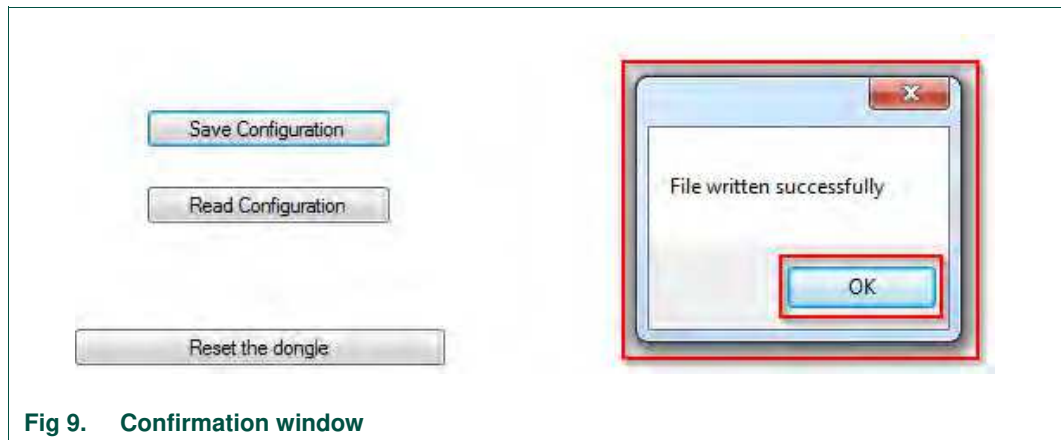

Fig 9. Confirmation window
3. If the GUI succeeds in writing the file, it will produce a pop-up window and then just press OK (see Fig 9).